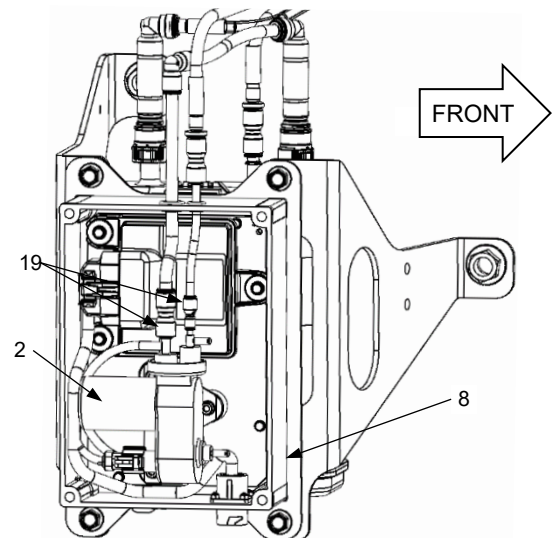

Figure 5:
13. Verify PCV Line quick connect fittings (19) to EVAP Pump (2) are securely fastened. *Figure 5*